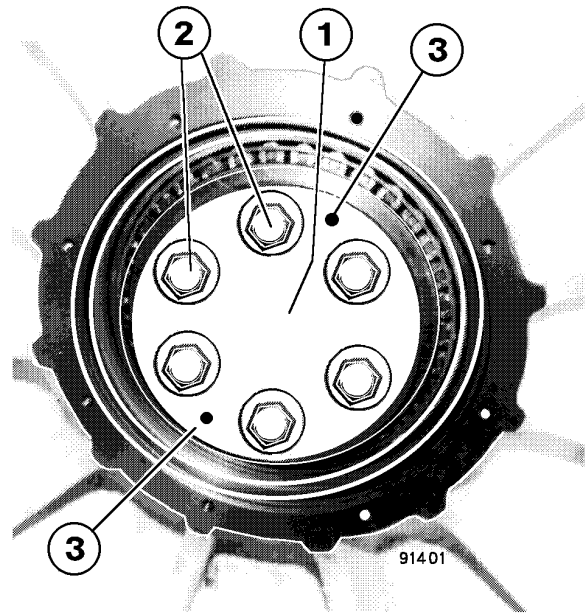

FIGURE 3-9. BEARING ADJUSTMENT
1. Install bearing retainer (1, Figure 3-9), without shims, with the thickness dimension stamp facing toward the outside. Install capscrews (2) and flat washers. Torque capscrews alternately using the following procedure: